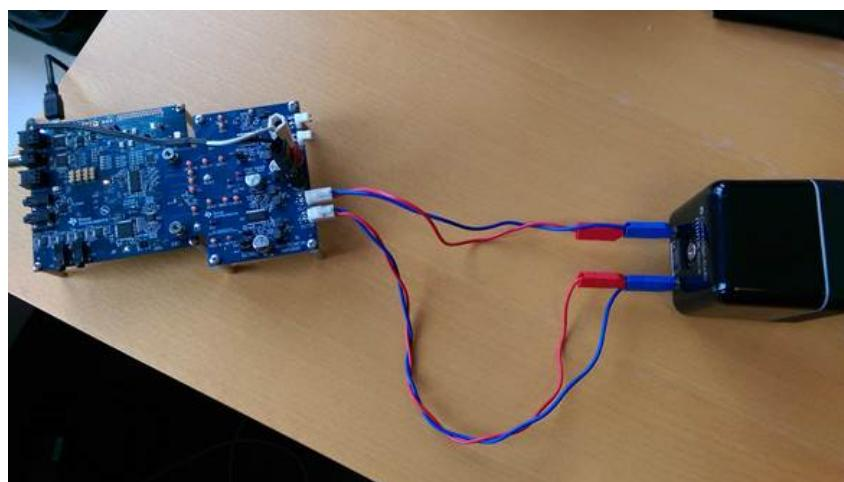

Figure 7. PBTL Connection to Speaker
3. Connect speaker terminals (J4 and J9) to the speaker in PBTL mode (See Figure 7).